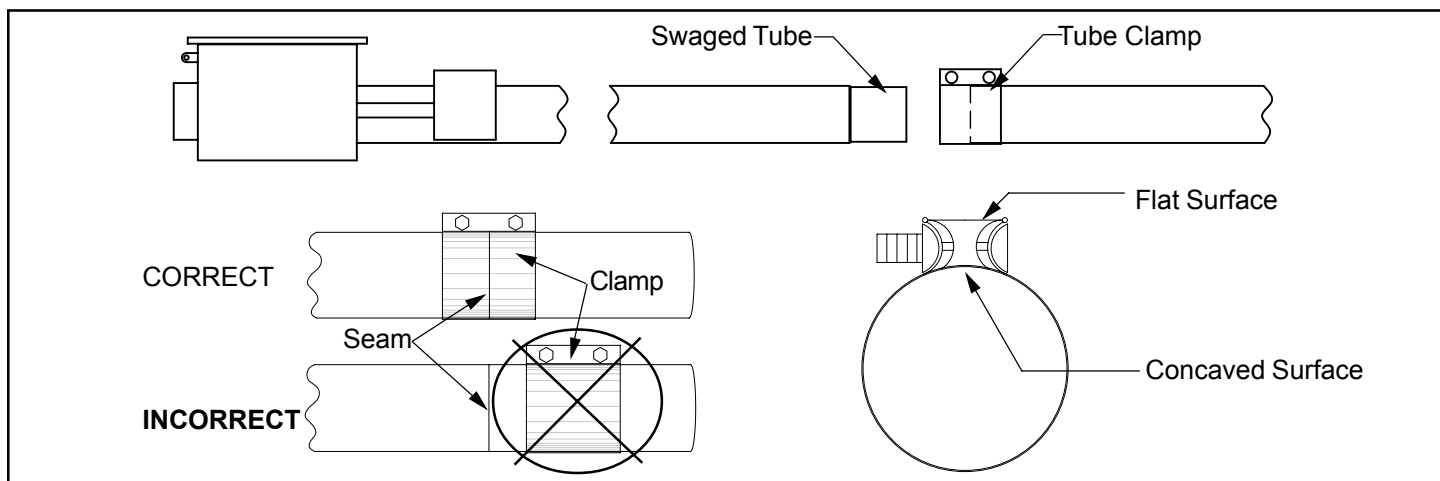

Figure 3-7
NOTE: The tube clamps provided with the heater are pre-assembled at the factory. If a clamp is dismantled, it is important that upon reassembly the butt clamp's spacer is properly inserted (see Figure 3-7). The spacer's concave surface **must** face the radiant tube. Incorrect spacer placement will result in shearing of the bolt when torqued to the recommended specifications (40-60-lb. ft.).
4. Clamps must be placed directly over tube seams. Refer to figure 3-7.